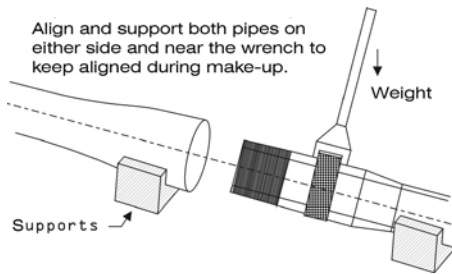

Figure 12
- Rotation of the pipe can be assisted by using a strap wrench or a spinning tong. (see Figure 12)